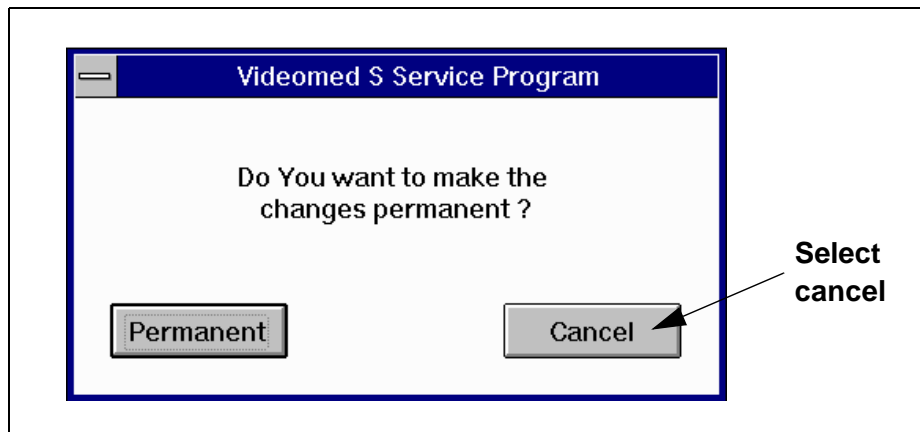

Fig. 8
- Also quit the following mask with **"Cancel"**. By doing so, the adjustment is not made permanent (Fig.8).